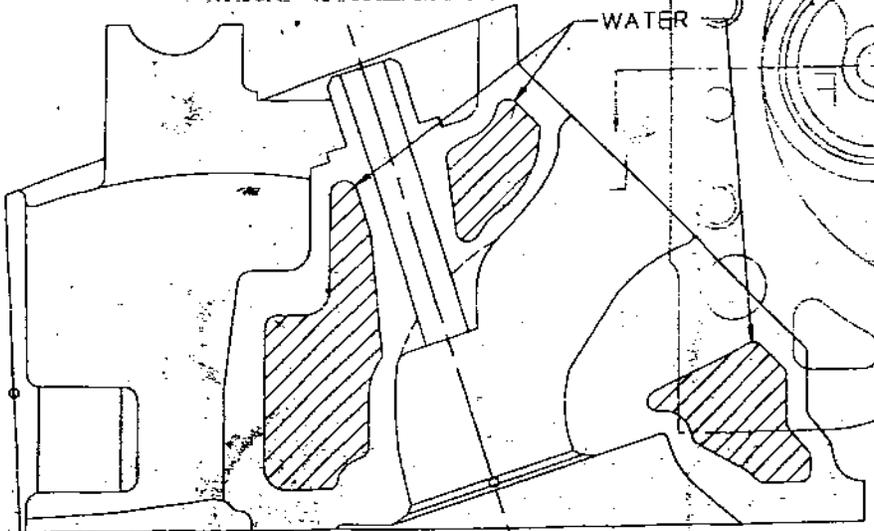

**FIGURE 2 - P4876412**
Figures 2, 3 and 4 are given for reference. Figure 2 is a cross-section through the valve guides cut parallel to the centerline of the crank and shows the shape of the 2 ports in the bowl area. The important thing is to note where the water is; 6 locations for water are shown in this view and are shaded with arrows pointing at them. Figure 3 shows the intake port and where water is located above and below the port. In this view there are 3 areas for water. Pay particular attention to the valve spring seat area in relationship to the top of the port. This area can get very thin if ANY amount of material is removed from the top of the port or the guide boss. Figure 4 shows the exhaust port and where water is located around the port; 3 areas for water are shown. These views are given so you will know where water is in the head, because when you port a cylinder head it is very, very important to be careful near the water jacket.
7. There are 2 "A" template shapes - "A1" and "A2." A1 is for the floor of the port, commonly called the short-side radius. A2 is for the up-stream side of the guide. Reference figures 2 & 3 and note location of water. We must be more careful in these areas.
8. The "B" template is for the side of the port but it also narrows the guide on this side. Reference figure 2.
10. There are 2 "D" templates. D1 is for the side of the port opposite to B. D2 does the guide and the roof of the port as it passes by the guide. Reference figure 2.